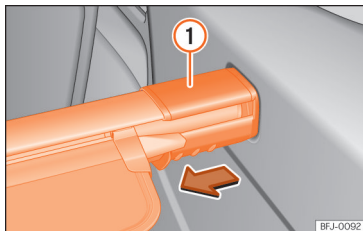

Fig. 120 In the luggage compartment: remove the rear shelf.
- Press the support of the cover »» Fig. 120 ① in the direction of the arrow and hold it in this position.
- Remove the cover support »» Fig. 120 ①.